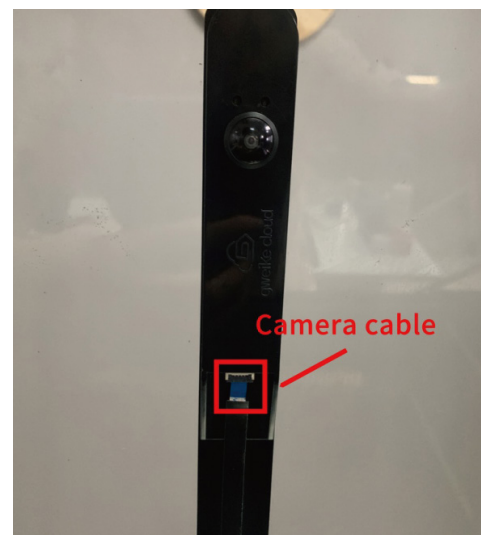

Figure23
- ① The camera socket is loose, re-plug the camera (Figure 23)
- ② The camera cable is damaged, replace the camera cable.